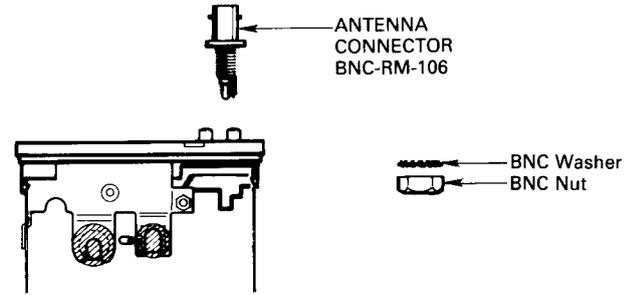
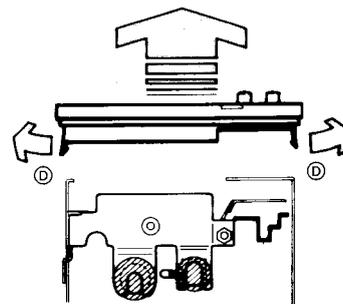

Fig. 5-2-2
Fig. 5-2-3
2. Remove the BNC Nut and the BNC Washer as shown in Fig. 5-2-2.
3. Remove the ANTENNA CONNECTOR by unsoldering point (B) on the components side and point (C) on the foil side of the PLL UNIT.
4. Remove the TOP PANEL-1 by slightly prying it outward on both sides at points (D) as shown in Fig. 5-2-3. DO NOT break the tabs.